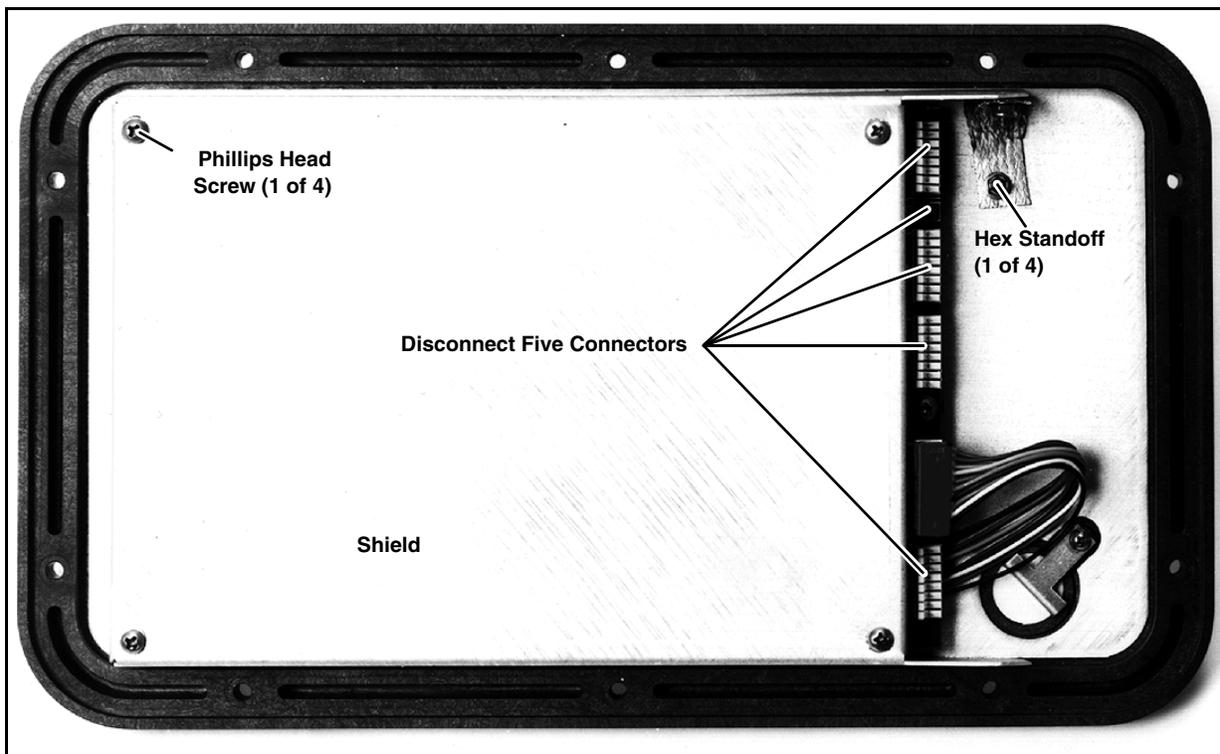

Figure 6-8 Underside of the Control Box Cover
2. Lift the cover and frame off the control box and turn the cover over, as shown in Figure 6-8.
3. The control box cover assembly may be disconnected from the control box lower section by disconnecting the five connectors (see Figure 6-8) and the grounding strap (see Figure 5-4).